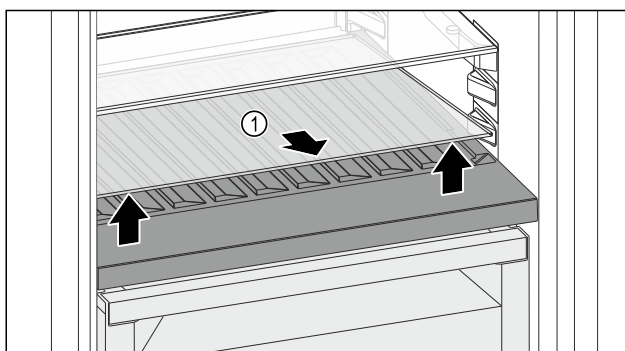

Fig. 116
- Lift the glass shelf Fig. 116 (1) at the front and remove.
- Store the glass shelf Fig. 116 (1) in a safe place outside the appliance.